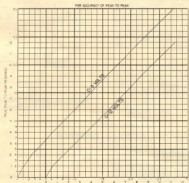

FIGURE 4-1 PEAK-TO-PEAK CHART
(1) Read the numerical value of the capacity directly from the scale. Find the associated impedance on the graph given in Figure 4.1. This value is XL in the formula below.
(2) Note the RANGE SELECTOR, whether it is on X1 - X10 - X100, etc., etc. This value is in the formula below.
(3) Determine the reactance of the inductance by means of an ohmmeter. This value is RL in the same formula.
(4) Knowing RL and whether the selector switch was on X1 - X10 - X100 etc., also knowing XL determines the inductive reactance XL from the formula below.
Therefore, the error due to the resistance is greater than 25%. Referring to the graph in Figure 4.1, we find that the impedance for a capacity reading of 8.8 WPF is 300 ohms. Substituting in the formula: